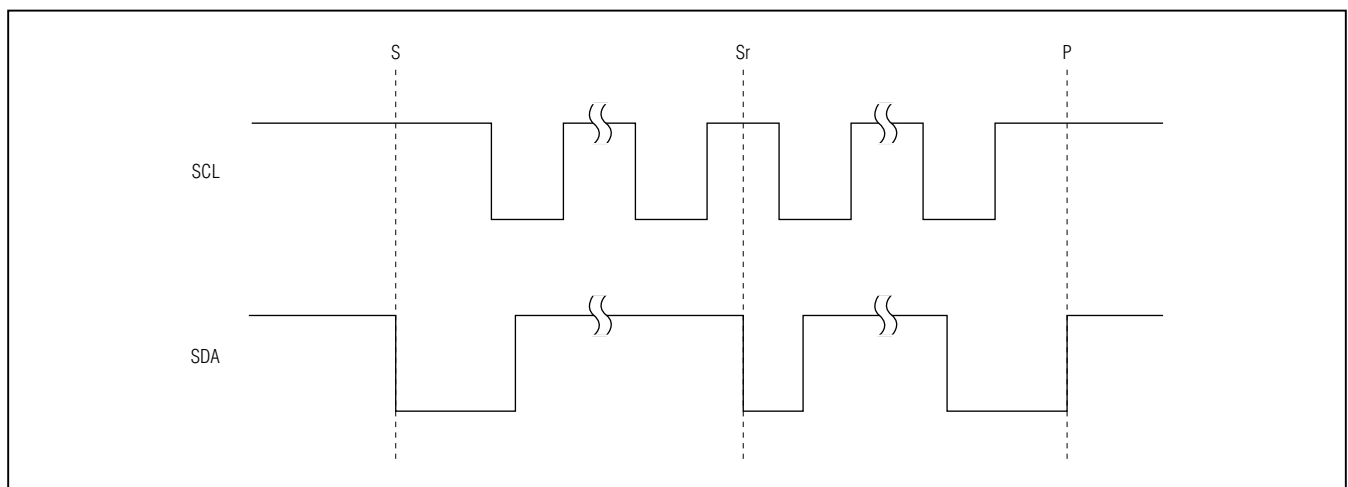

Figure 17. I²C START, STOP, and Repeated START Conditions
When writing to the MAX3108 using I²C, the master sends a START condition (S) followed by the MAX3108 I²C address. After the address, the master sends the register address of the register that is to be programmed. The master then ends communication by issuing a STOP condition (P) to relinquish control of the bus, or a repeated START condition (Sr) to communicate to another I²C slave. See Figure 17.